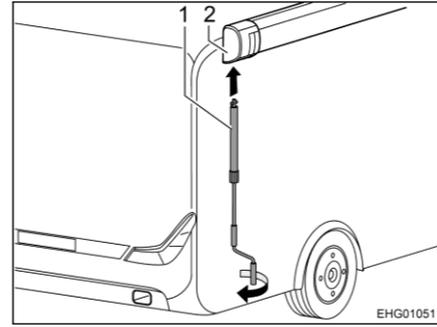

Fig. 14 Installing crank
- Insert the crank (Fig. 14,1) into the bayonet socket (Fig. 14,2) of the awning.